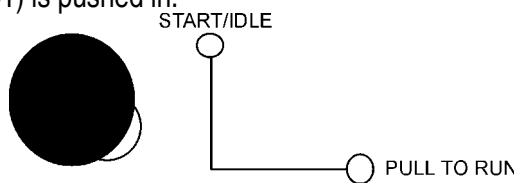

Figure 41. Engine Throttle Lever
6. Check to see if the engine throttle lever (Figure 41) is pushed in.